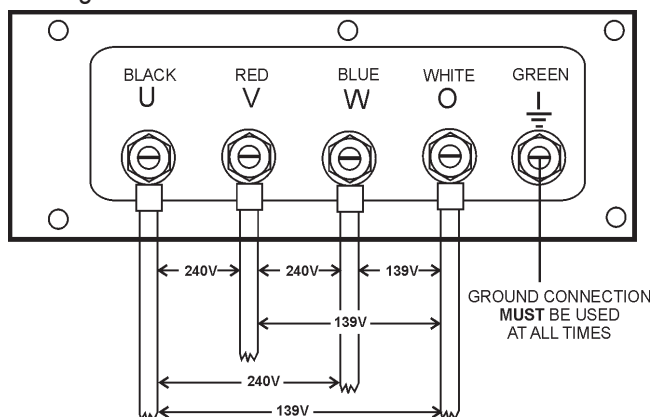

Figure 22. UVWO Terminal Lugs 240/139V Three Phase Connections
2. Connect the load wires to the UVWO terminals as shown in Figure 22.